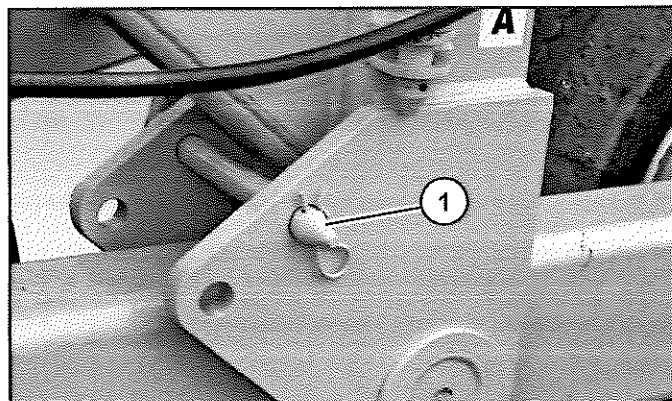

Figure 90
6. Remove the walking beam pins (Item 1) (Figure 90) on both sides of conveyor from the top (operating) position and place into the bottom (set-up/take down) position.